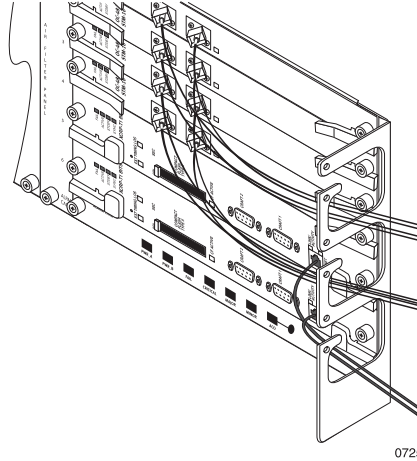

Figure 19 Cable Routing at the Front of the SmartEdge 400 Chassis
3. Starting with the line card installed in slot 4, connect and route the line card cables; see Figure 19